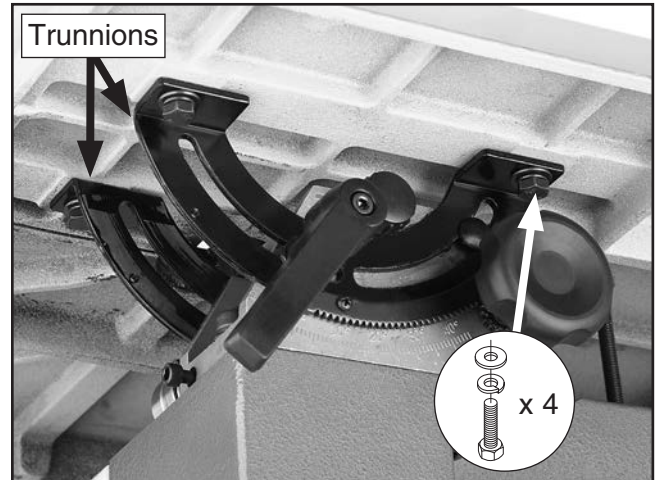

Figure 23. Mounting the table.
- Models G0513, G0513P and G0513ANV:** Secure the table to the trunnions, as shown in **Figure 23** with the (4) M8-1.25 x 16 hex bolts, 8mm lock washers, and 8mm flat washers.